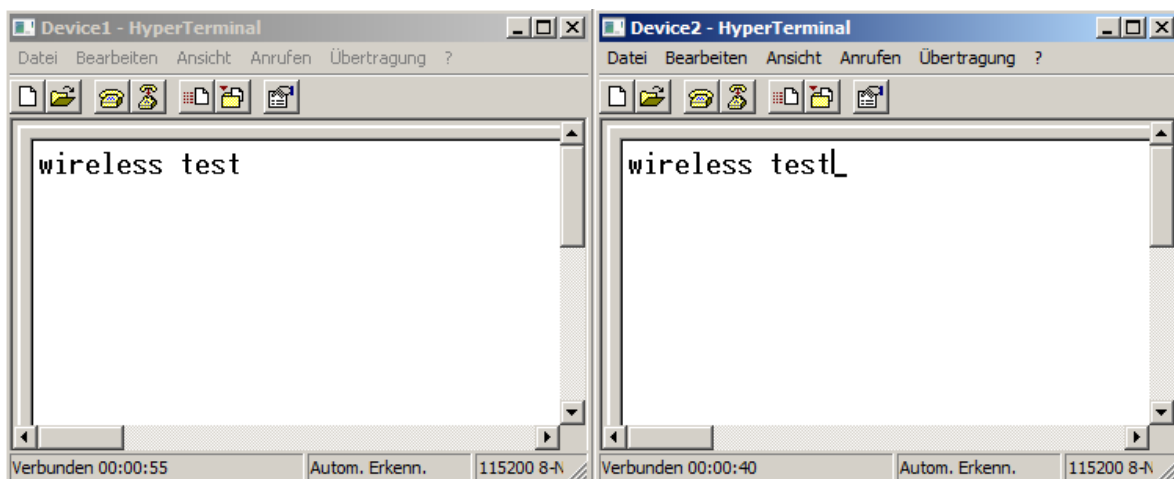

Figure 16: Wireless UART terminal session
7. The character is received by the USB stick and transferred wireless to the other USB stick, that sends the received character to the own terminal program, see **Figure 16**.